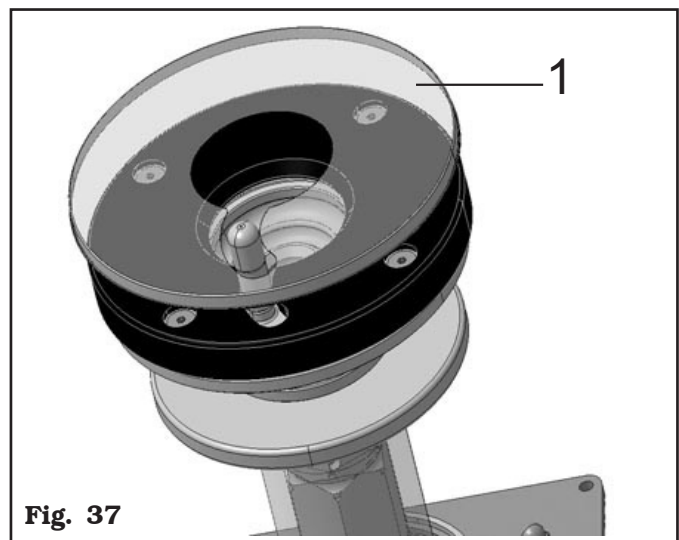

Fig. 37
In case of use of reverse wheels, to protect the rim, apply on the rubber platform a protection made of a transparent plastic material available on demand (**Fig. 37 ref. 1**). We suggest replacing it if there are visible damages (see **Fig. 37**).